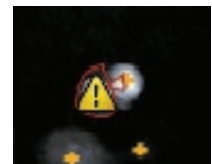

Figure 2. Cell division warning.
- 3 When the cells divide, a warning sign appears in the frame (Figure 2). This indicates a cell division. When the warning appears, it is time to unset that cell. If the cell is covered with the warning sign, zoom in to be able to unset it (otherwise the warning message appears when hovering over it).